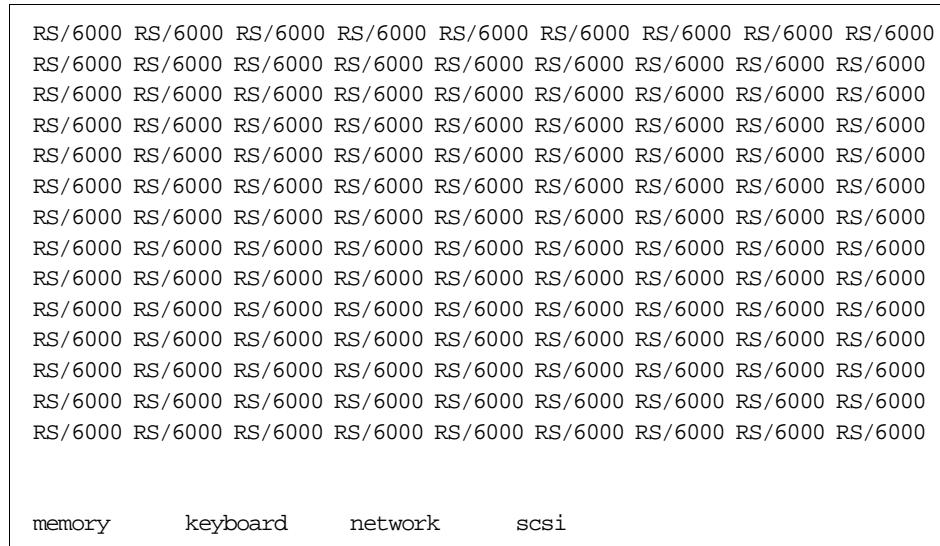

Figure 107. Boot Screen
4. Wait for a panel to appear as shown in Figure 107.